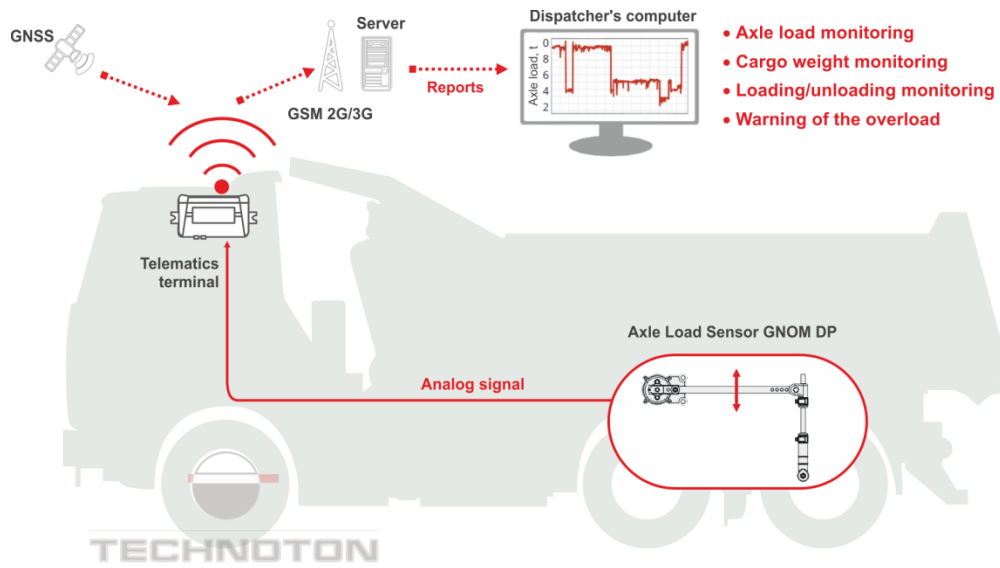

Figure 2 — Example of GNOM sensor application for monitoring axles load of a truck
**1) For monitoring the axle load of a truck** (see figure 2).